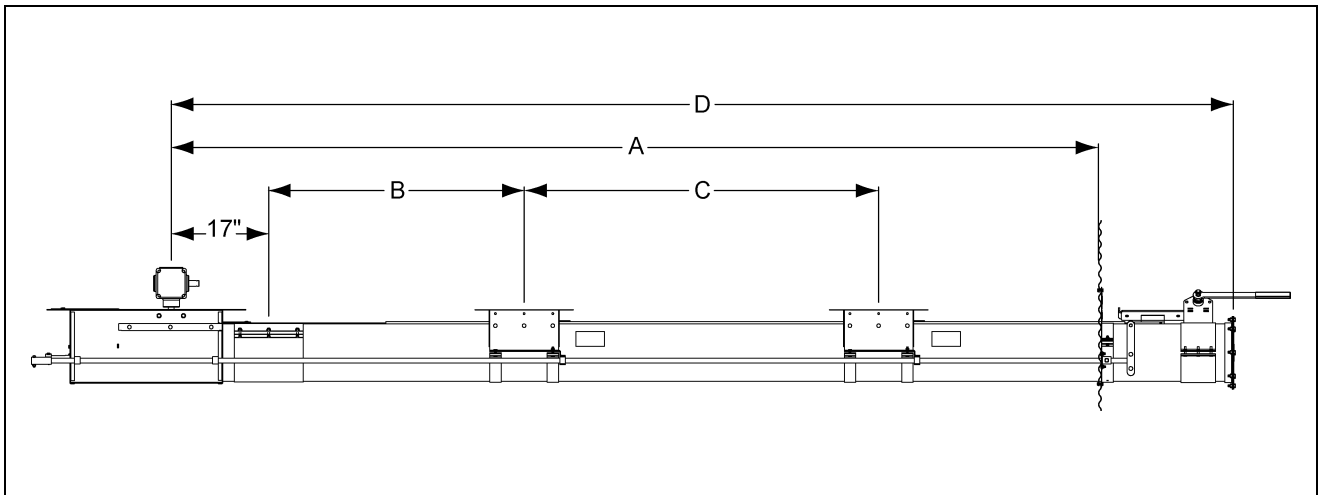

Figure 4D Wells Spacing
3. The distances between intermediate wells and the center well should be equal. *See Figure 4D and Chart below.*